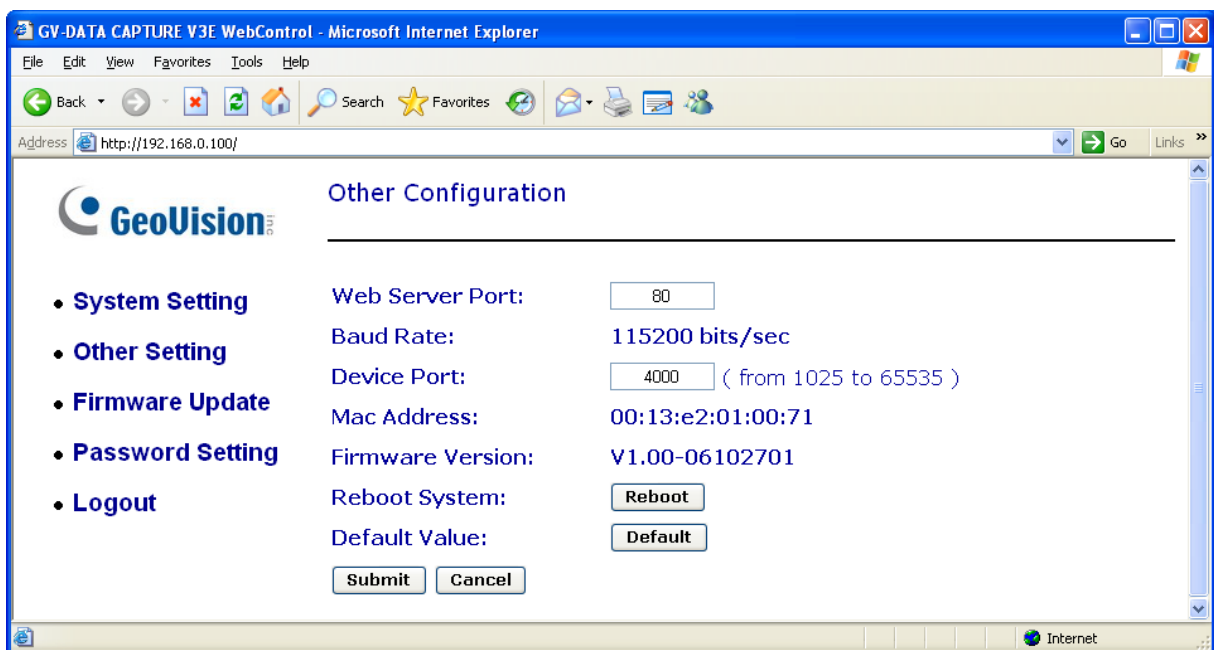

Figure 22
5. In the Device Port field, keep default value **4000**. Or modify it to match that of the POS system (see *Figure 22*).
3. In the Device Port field, keep default value **4000**. Or modify it to match that of the POS system (see *Figure 22*).